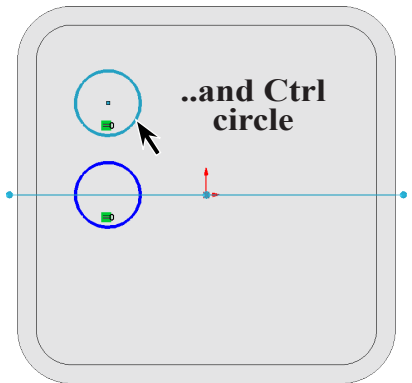

Fig. 21
Step 10. **Ctrl click top circle**, **Fig. 21**.